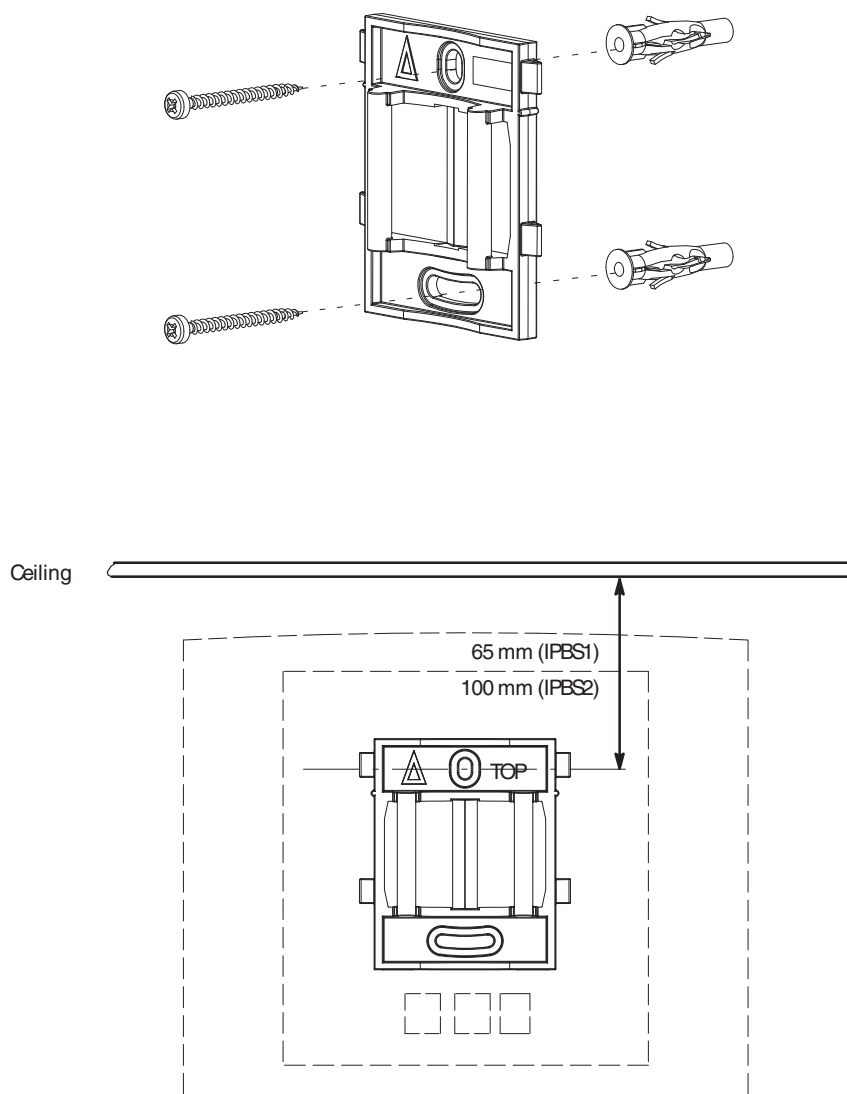

Figure 8. Fixing the mounting bracket to a wall.
Fix the mounting bracket (see figure 8 on page 36) to the wall as follows:
1. Hold the mounting bracket with its flat side against the wall with the text 'TOP' upwards and mark the two holes. The minimum distance between the upper hole and the ceiling or any object above the base station must be at least 65 mm for IPBS1 and 100 mm for IPBS2 and DB1, see figure 8 on page 36. If the distance is less than 65/100 mm, the base station cannot be slid onto the bracket.
1. Fix the cable duct to the wall in one of the positions shown in figure 8 on page 38.